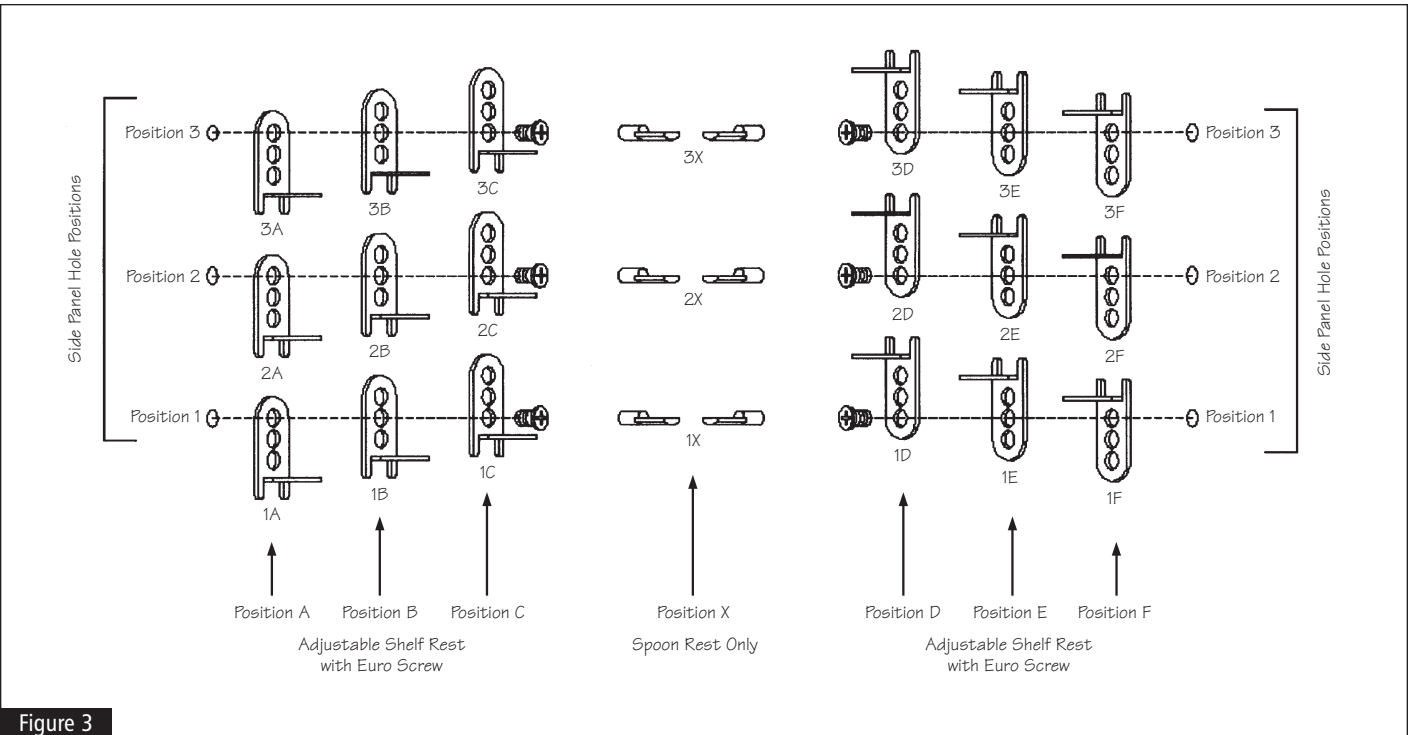

Figure 3
- 5** To install an adjustable shelf rest, align the hole in the adjustable shelf rest with the desired hole in the side panel and secure with a Euro screw. See Figure 3. Do not over tighten and strip the threads on the screw. To install a spoon shelf rest, insert the spoon shelf rest into the desired hole with the flat side of the spoon shelf rest facing upward.